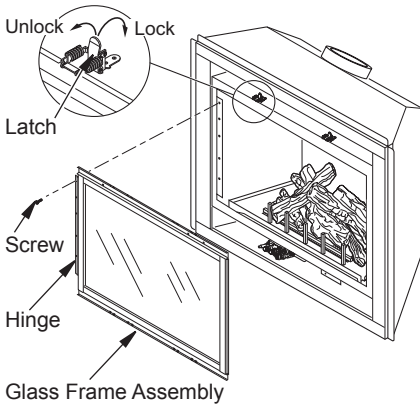

Figure 41 - Removing/Replacing Glass Door
2. Lift up on latches to unlock. There are two on top of firebox and two below firebox that hold glass door in place (see Figure 41, page 27).
3. While holding glass door to prevent it from falling and causing injury, remove 5 screws from hinge located on left side of door frame assembly (see Figure 41, page 27).